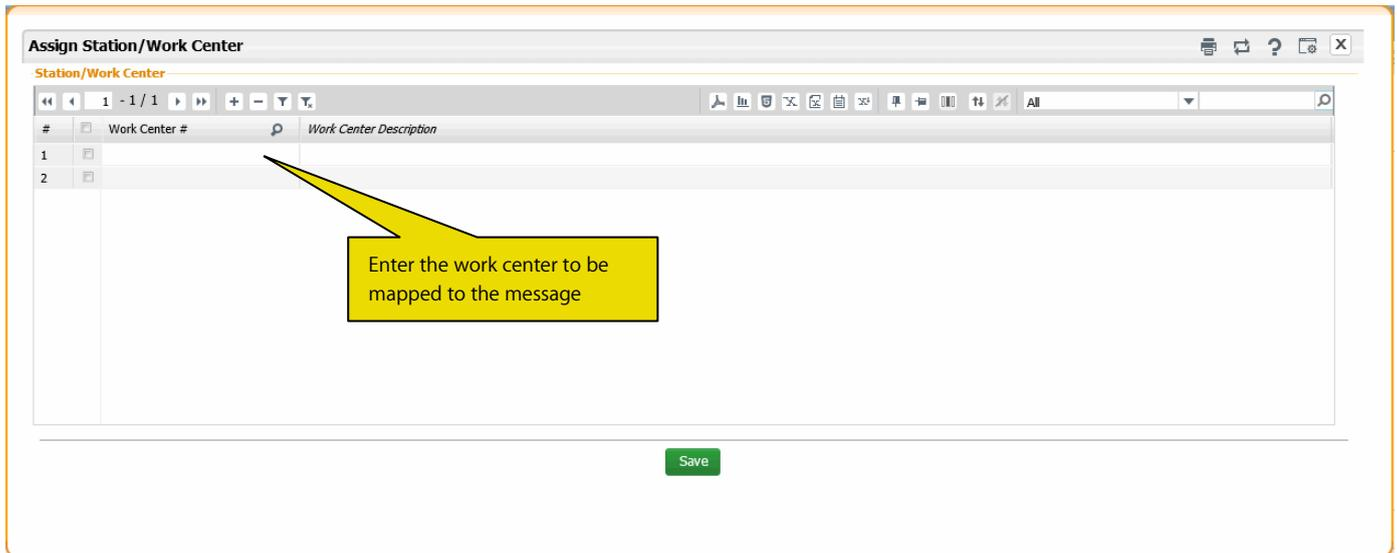

Figure 3.3: The screen for mapping Station/Work Center to messages
1. Select the **Assign Station/Work Center** link at the bottom of the **Maintain Notification Messages for Flight Operations** screen. The **Assign Station/Work Center** page appears. See *Figure 3.3*.